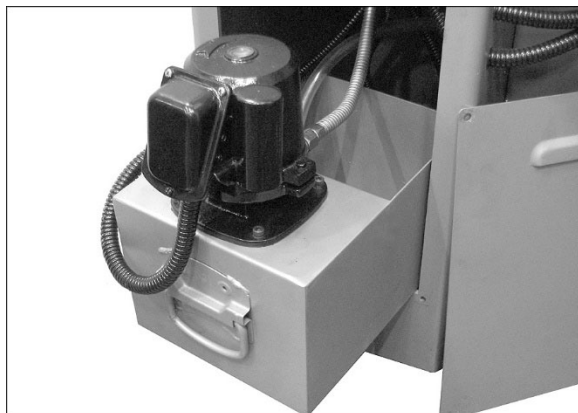

Figure7-7
1. Remove access cover at rear of stand near tailstock end, and pull out coolant tank. See Figure 7-7.